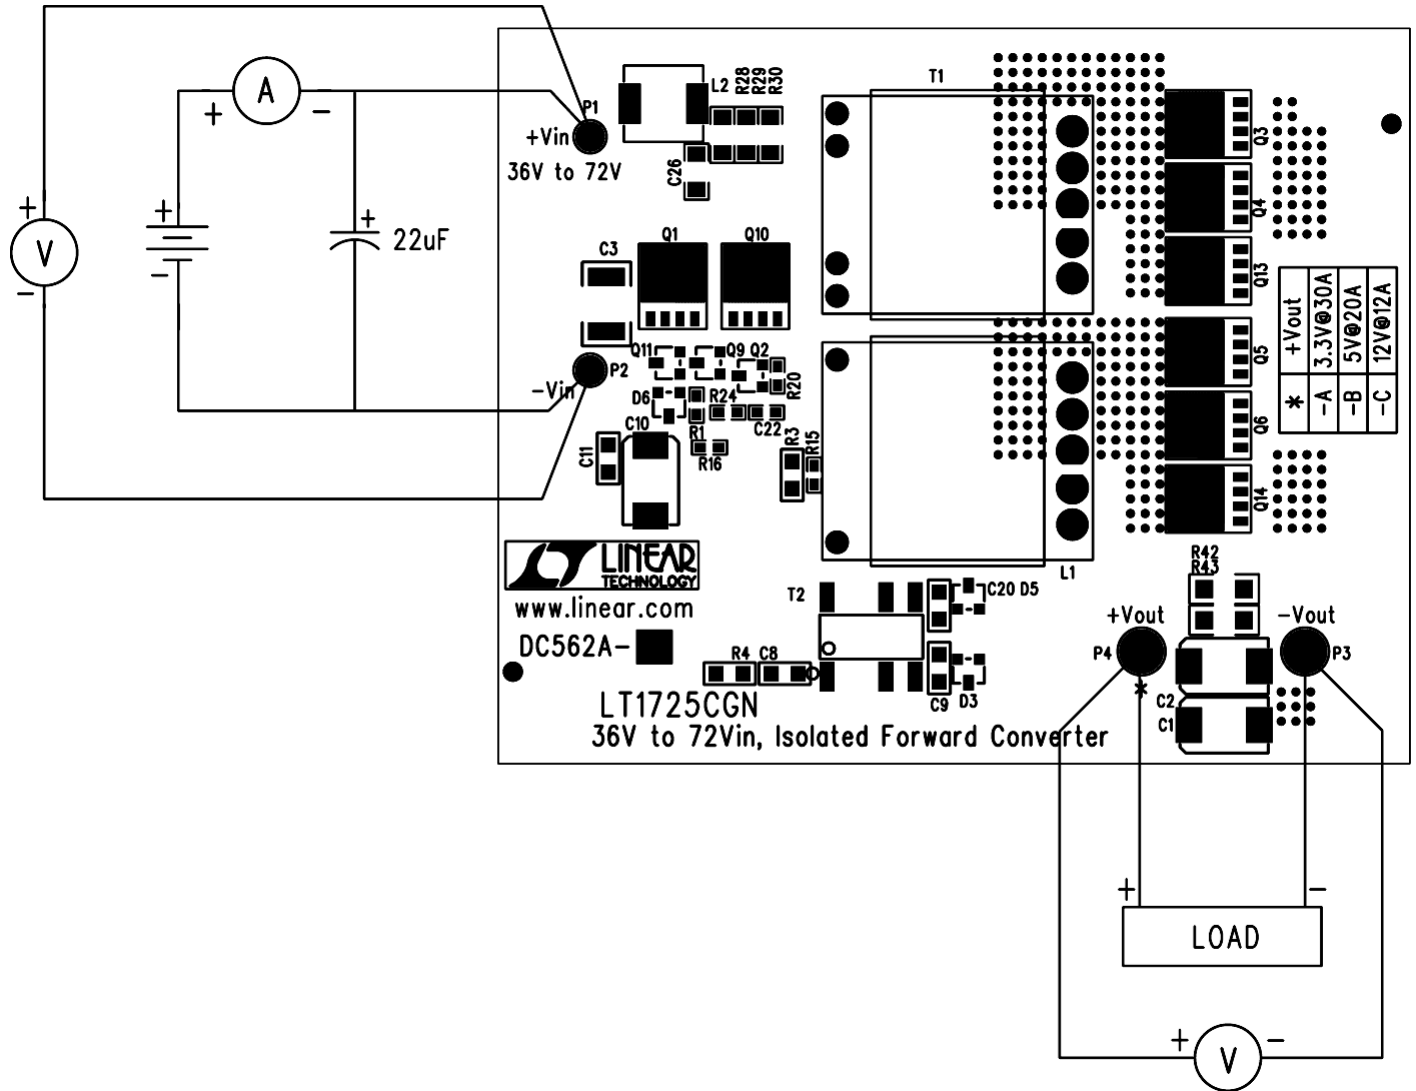

Figure 1. Proper Measurement Equipment Setup
Demonstration circuit 562A-A is easy to set up to evaluate the performance of the LT1725 and LTC1693. Refer to Figure 1 for proper measurement equipment setup and follow the procedure below:
2. Connect a 36-72V power supply, a 22 μ F 100V capacitor and meters to the Vin pins, as shown in Figure 1. Observe proper polarity.
3. Connect a 0-30A load and meters to the Vout pins, as shown in Figure 1.